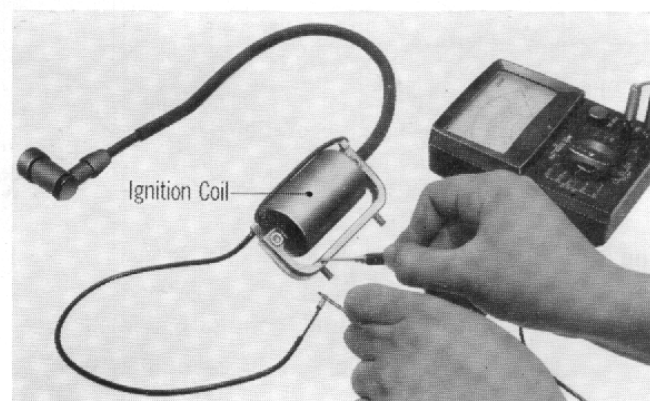

Fig. 104
- (2) Another method is to measure the resistance of the ignition coil and the flywheel A. C. generator primary coil. (Fig. 104)